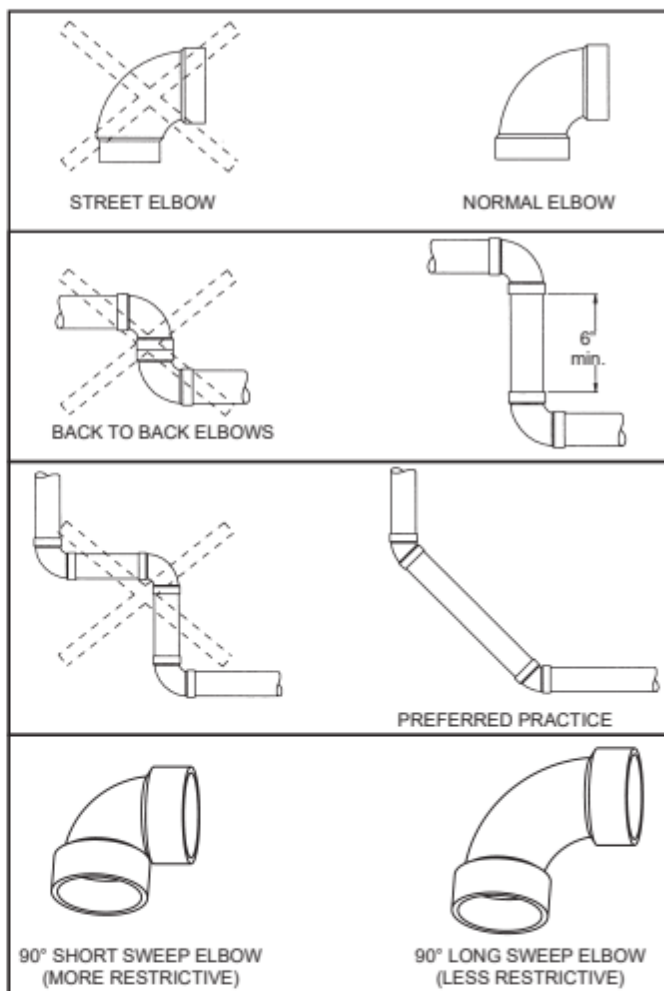

Figure 29.
Note: The information provided in Figure 29 is intended as a guideline for good vent installation practices only and is not intended to restrict venting options beyond those restrictions established by the current edition of the **"National Fuel Gas Code", ANSI Z223.1/NFPA 54** or any applicable local and state codes.
3. Avoid using 90° elbows "back to back" and do not use street elbows. Maintain a minimum 6" straight section between elbows. Closely coupled and short radius elbows reduce the venting capacity. Figure 29 shows examples of vent pipe connections.